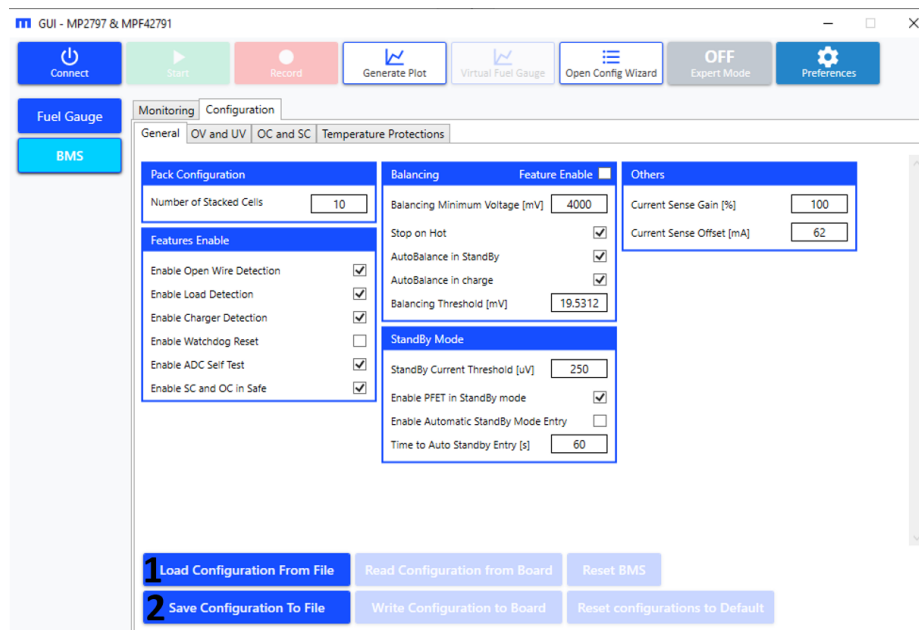

Figure 48: BMS (Load and Save Buttons)
3. Click “Load Configuration from file” to open the file explorer where a BMS configuration file can be selected (denoted as “1” on Figure 48). If the file containing the BMS configurations is in the correct format, the BMS configuration parameters of the GUI are overwritten (see Figure 48).
4. Click “Save Configuration to file” to open the file explorer (denoted as “2” on Figure 48). Select the directory and the filename of the exported configuration file, which contains the BMS configuration (see Figure 48).